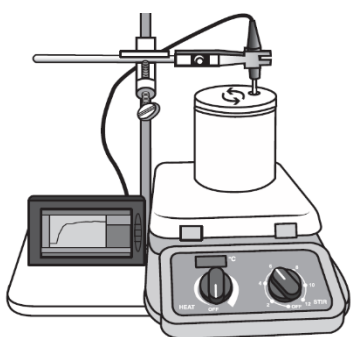
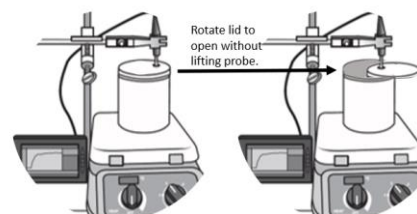

Figure 1. Calorimeter setup.
Figure 5.
Many experiments in thermochemistry involve a calorimeter. A calorimeter is simply a container that insulates a reaction from the surrounding environment. Usually, a calorimeter will have a water bath that changes temperature; up or down depending on whether the reaction is exothermic or endothermic, or whether an object is placed in the bath that is hotter or colder than the water. For many aqueous reactions, **the water bath is the solution itself**, as in the second part of this lab. Your calorimeter (see Figure 1) will consist of a thick Styrofoam cylinder closed on one end plus a Styrofoam lid (or one plastic lid plus two Styrofoam coffee cups, one nestled inside the other). Styrofoam is an excellent insulator, but with time, heat will slowly leak out of the cup. By plotting temperature of the solution versus time (see Figure 2), you will be able to extrapolate to determine the final temperature of the reaction more precisely. You will collect the data using a LabQuest Data Collector with a temperature probe. This system will collect the data for you and graph it.
7. Setup the equipment as shown in Figure 1, minus the temperature probe (do not remove it from the sausage yet):
8. Has it been at least 12 minutes since you placed the sausage in the ice slush? If so, record the temperature of the sausage, which is being measured by the LabQuest Data Collector, in Data Table 1 item 10 - T_i initial temperature of sausage.
10. Remove the temperature probe from the test tube and dry it with a paper towel. Suspend it from the clamp and insert it through the outer hole on the lid. Adjust the clamp so that the probe is submerged as low as possible in the water but high enough above the lid so that you can open the lid by rotating it without lifting the probe (see Fig. 5).